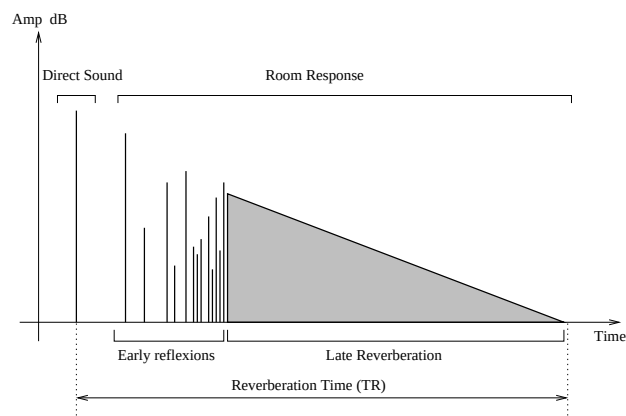

Figure 29: Impulse response of a room.
The best way to evaluate the response of a room is to clap hands and to listen to the resulting sound. Figure 29 shows the amplitude of the impulse response of a room versus time. The first part of the response is the clap itself, the direct sound, while the remaining of the response is the effect of the room which can itself be divided in two parts. Following the direct sound, one can observe a certain amount of echoes which gradually become closer and closer until they can not be distinguished anymore and can be assimilated to an exponentially decaying signal. The first part of the room response is called the early reflexion while the second is called the late reverberation. The total duration of the room response is called the reverberation time (RT).